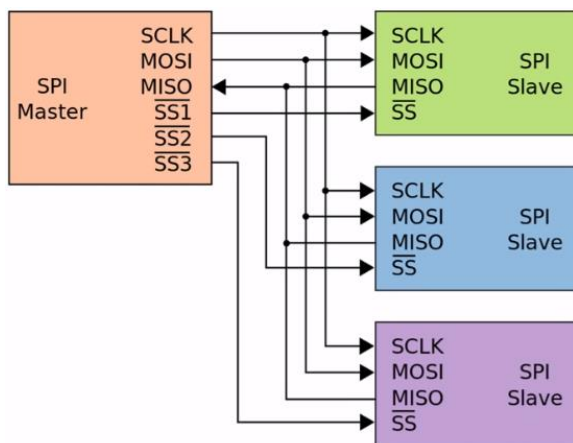

Figure 2: 'Multiple Slave select'
- In a more standard 'multiple slave select' arrangement (figure 2):